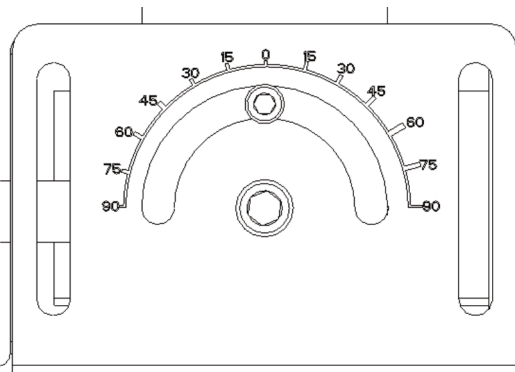

Fig. 2
5. (Optional) Adjust the angle of the fixture by loosening the top screw in **Figure 2** and use the hash marks as a guide. Retighten the screw when pointed at the desired angle.